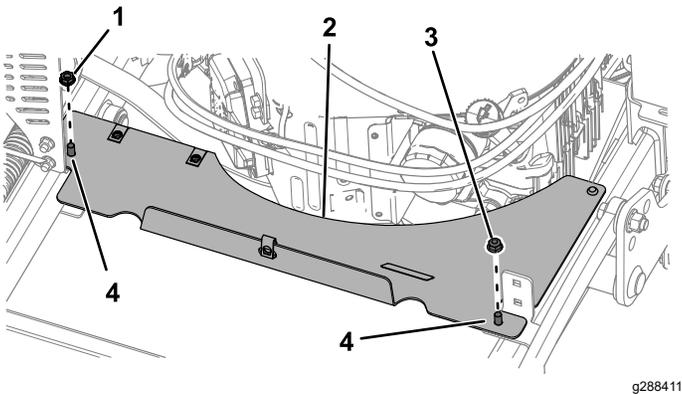

Figure 4
2. Remove the hex nut (5/16 inch) nut (5/16 inch) securing the guard extension to the carriage bolts (Figure 4). Remove the guard extension.